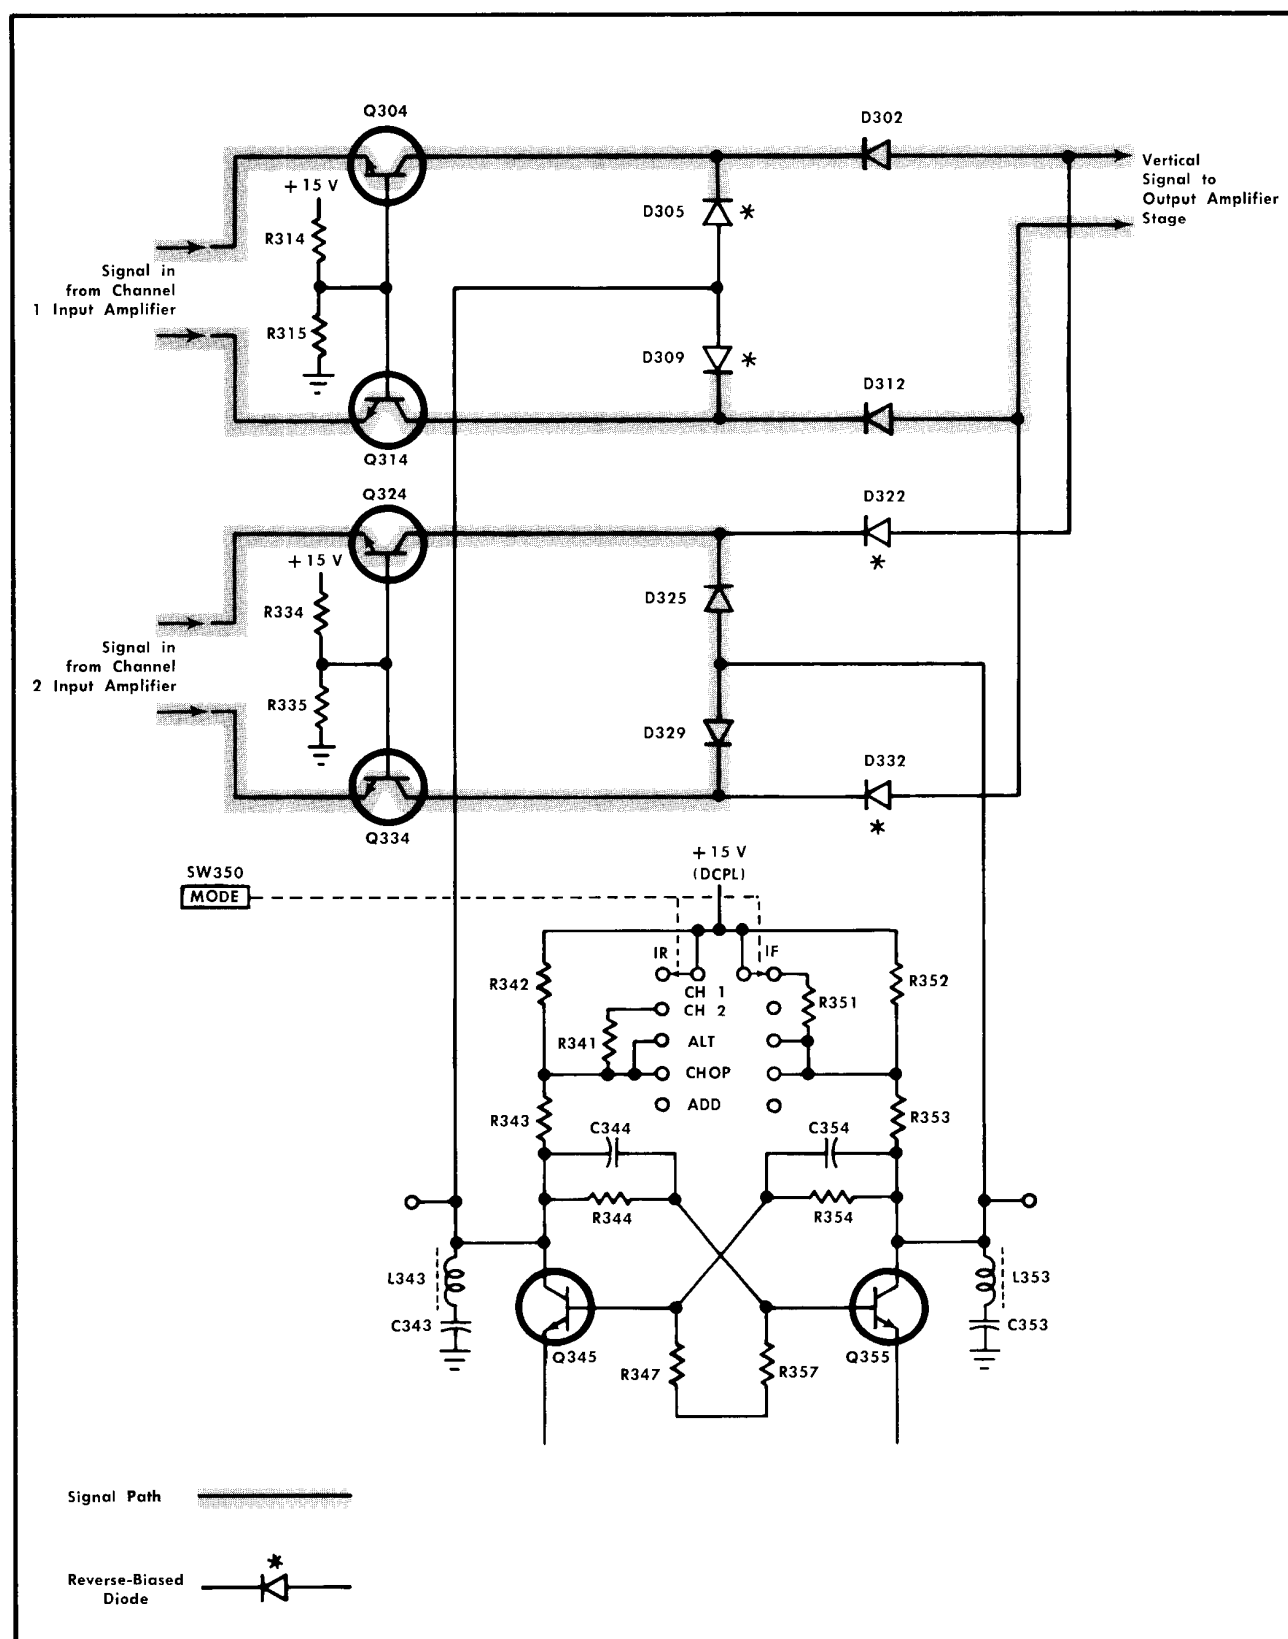

Fig. 3-5. Effect of Diode Gates on signal path (simplified diagram). Conditions shown for CH 1 position of the MODE switch.
**CH 1.** In the CH 1 position of the MODE switch, SW350, diodes D325-D329 in the Channel 2 Diode Gate are forward biased through R351 and R353 to the +15-volt supply (see simplified diagram in Fig. 3-5). This reverse biases D322-D332 to block the Channel 2 signal so it cannot pass to the Output Amplifier stage. At the same time in the Channel 1 Diode Gate, the diodes D305-D309 are reverse biased with anode voltages of about +2.8 volts established by divider R342-R343-R344-R357 between the +15-volt and -15-volt supplies. The anodes of D302-D312 are at about +7.0 volts. Since D302-D312 are forward biased, the Channel 1 signal passes to the Output Amplifier stage.